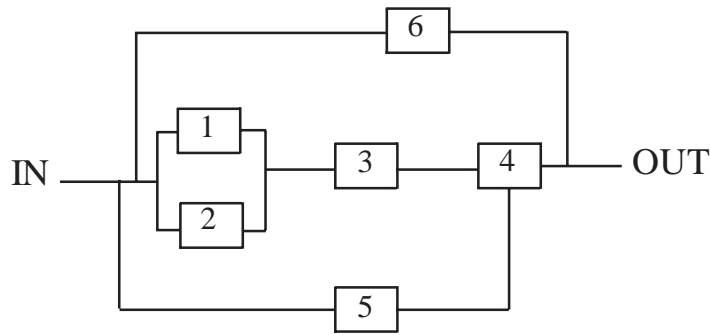

Fig. 1
- Q3)** Find the reliability of the system in Fig. 1 The reliability values of components 1, 2, 3, 4, 5 and 6 are 0.9, 0.92, 0.85, 0.87, 0.82 and 0.95 respectively. [18]